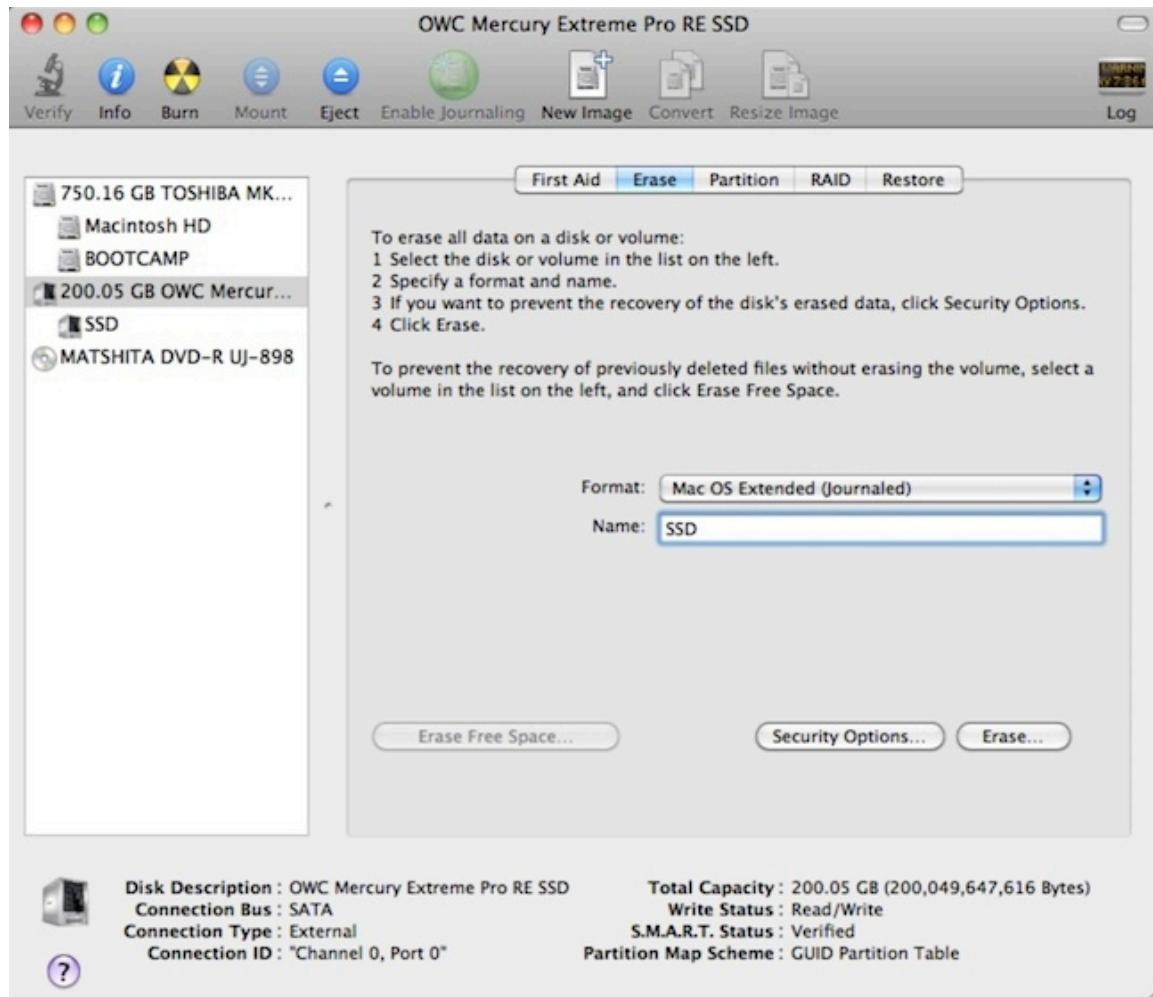

Figure 7: Selecting the *Erase* tab in Apple's *Disk Utility*
- After carefully selecting the drive you wish to format, select the *Erase* tab in Apple's *Disk Utility* (see Figure 7).